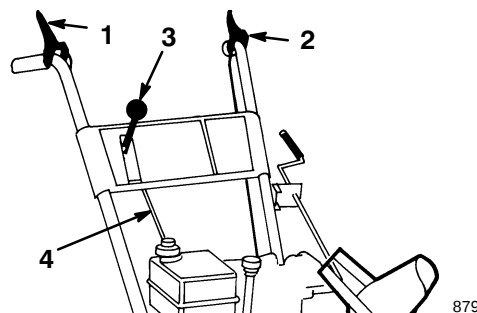

Figure 6
- Move the speed selector (Fig. 6) on the control panel to the R (reverse) position.
- Adjust the two flange nuts up or down on the traction control rod until the distance between the top of the handgrip and the bottom of the traction control lever (Figs. 6 and 7) is approximately $4\frac{3}{8}$ in. (11 cm).
- Move the speed selector (Fig. 6) into third gear.
3. Check the distance between the top of the handgrip and the bottom of the auger/impeller control lever (Figs. 6 and 9). The distance should be approximately four inches (10 cm).